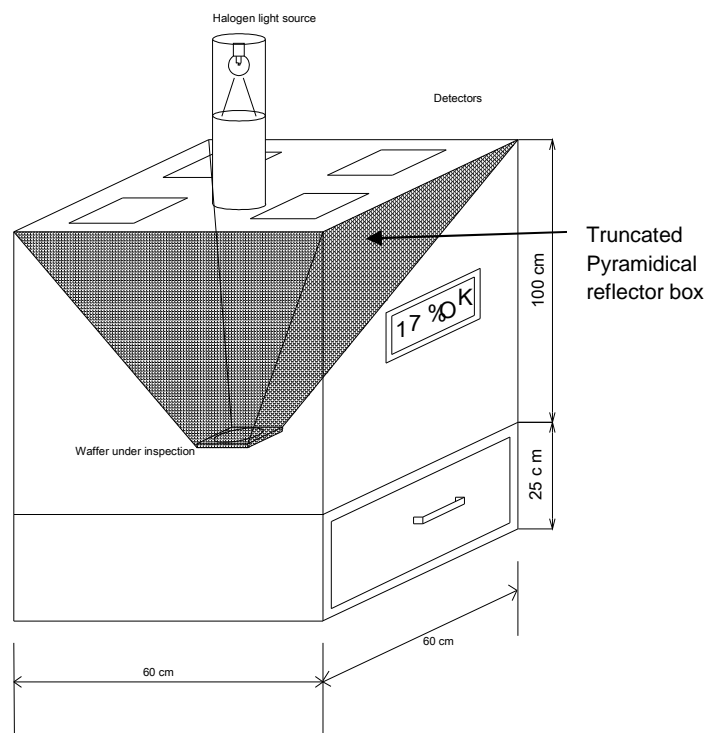

Fig 2. Sketch of diffused reflectance setup with truncated pyramidal (TP) box (not to scale)
6. The Si wafer placed on the bottom jig will be illuminated with a strong collimated beam of light and in order to avoid any dispersion of reflected light, a truncated pyramidal box needs to be inserted as shown in the sketch (Fig 2).
7. For efficient collection of diffused reflected light from the Si wafer, the truncated pyramidal (TP) reflector box, will have with mirrors pasted on inside walls. This TP reflector will have smaller opening exactly equal to the size of Si wafer and the bigger opening will accommodate all the detectors. The number of detectors may vary from four to eight depending on the accuracy requirement.